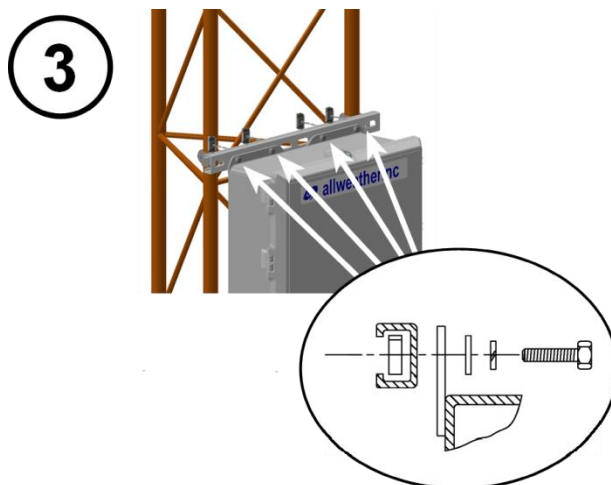

Figure 4. Secure Electronics Enclosure to Top Unistrut
3. Line up and center the top of the DCP electronics enclosure on the upper Unistrut and secure the enclosure to the Unistrut using the mounting hardware provided (Figure 4).